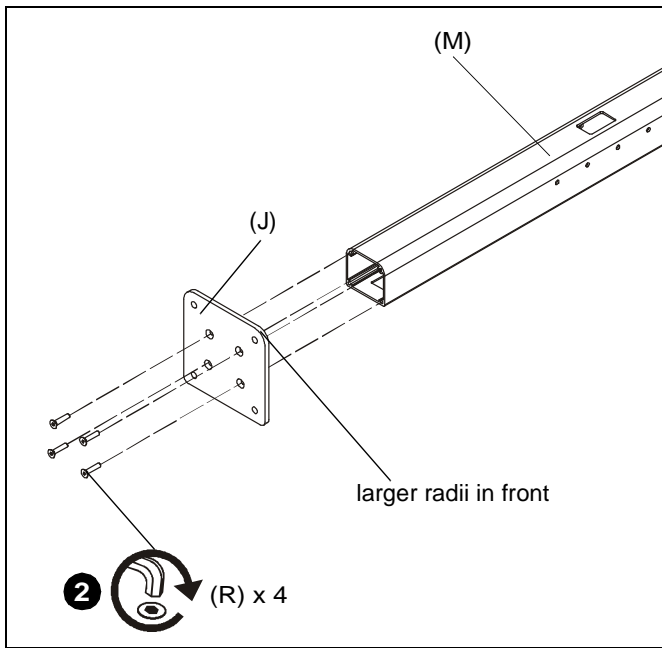

Figure 1
1. Lay array columns (M) down on a flat surface.
2. Use four 5/16-18 x 1 1/2" flat head cap screws (R) to connect each bolt down plate (J) to each columns (M). (See Figure 1)